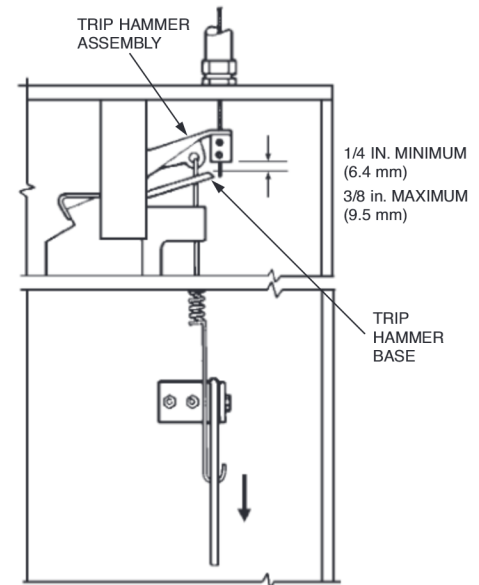

FIGURE 54
16. Lower tension lever to “DOWN” position and inspect the base of wire rope clamping device to make certain that there is a minimum of 1/4 in. (6.4 mm) and a maximum of 3/8 in. (9.5mm) clearance between the base of trip hammer assembly and cable lever assembly. See Figure 54. (If clearance is not between 1/4 in. (6.4 mm) or 3/8 in. (9.5 mm), raise tension lever, loosen set screws on locking clamp and repeat Steps 15 and 16.)